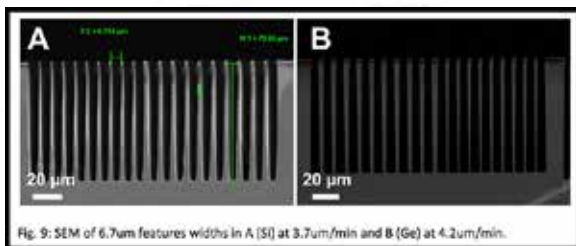
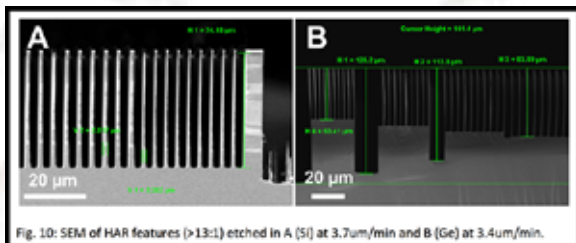

Fig. 9: SEM of 6.7µm features widths in A (Si) at 3.7µm/min and B (Ge) at 4.2µm/min.
Fig. 10: SEM of HAR features (>13:1) etched in A (Si) at 3.7µm/min and B (Ge) at 3.4µm/min.
- Figure 9: W etch $SF_6/CH_3OH/Ar$
- Figure 10: TiW etch $SF_6/BCl_3/Cl_2/Ar$
Note that consistently higher Ge etch rate for the larger 40 µm feature size. Germanium's higher etch rate is quickly erased as the feature size is reduced by an order of magnitude. This demonstrates the impact of RIE-lag and how the largely chemical nature of Ge etching is impacted by the reduction in the transport of chemical reactants down the constricted trench width. Specifically, we determined that for aspect ratios less than 13:1, Ge etch rates exceeded those of Si under identical DOE conditions. Furthermore, a noticeable difference between Ge and Si is seen in the resulting etch profiles. The Si etch profile shows a very distinct tapered profile with an angle of 88° especially for higher aspect ratio features, while the Ge etch displays a non-tapered anisotropic profile with an angle of approximately 90° as shown in Figure 9.
Notice that the aspect ratio in Figure 9 is less than 13:1 and that the Ge etch rate exceeds that of Si. Figure 10 illustrates aspect ratios greater than